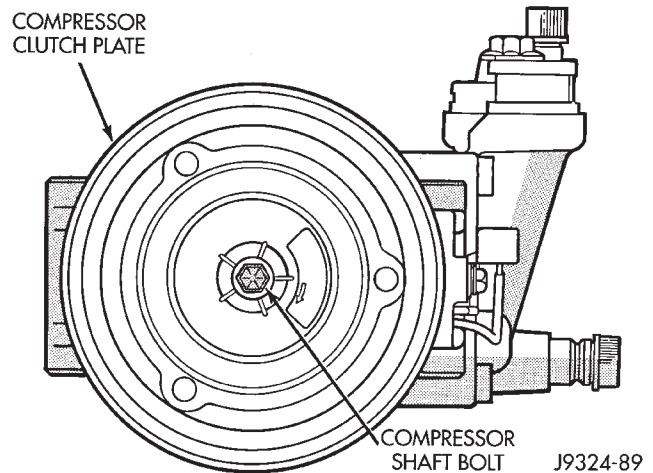

Fig. 6 Compressor Shaft Bolt
- (1) Disconnect and isolate the battery negative cable.
- (2) Remove the compressor shaft bolt (Fig. 6). A band-type oil filter wrench may be used to aid in securing the clutch during bolt removal.